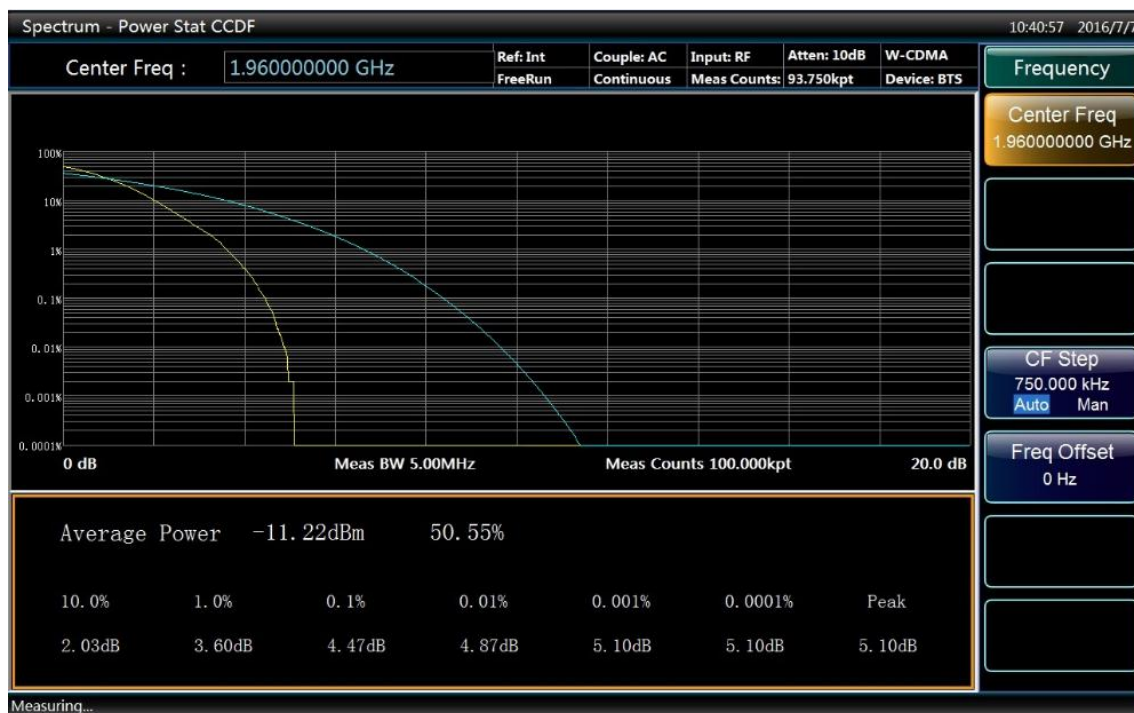

Fig. 4.70. Power Statistical Measurement
- Power statistical measurement results as shown in Fig. 4.70.